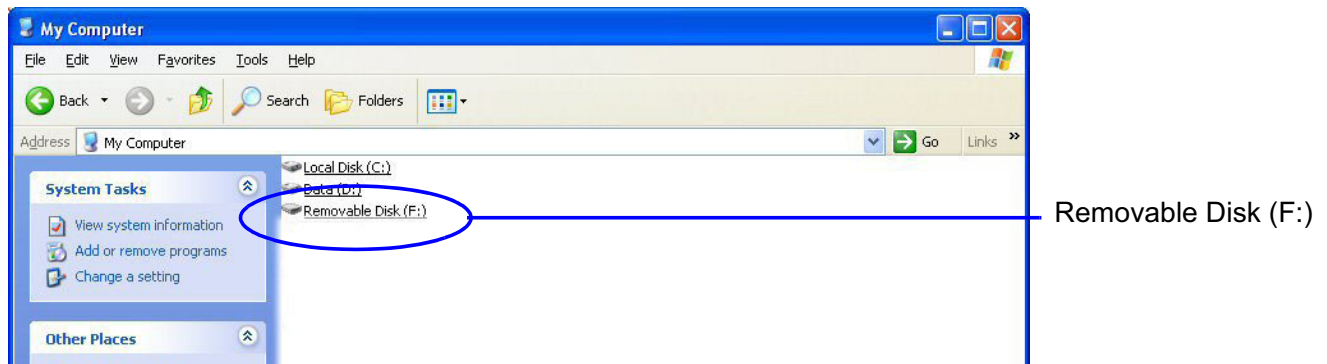

Figure 8-155 Removable Disk Shown under My Computer
- 3) Under My Computer, after a while, the disk will show as a new drive, named **Removable Disk** - refer to Figure 8-155 on page 8-157. (It will be allocated the next available drive letter.)
- 3) Under My Computer (refer to Figure 8-155 on page 8-157), verify that the drive appears for selection.